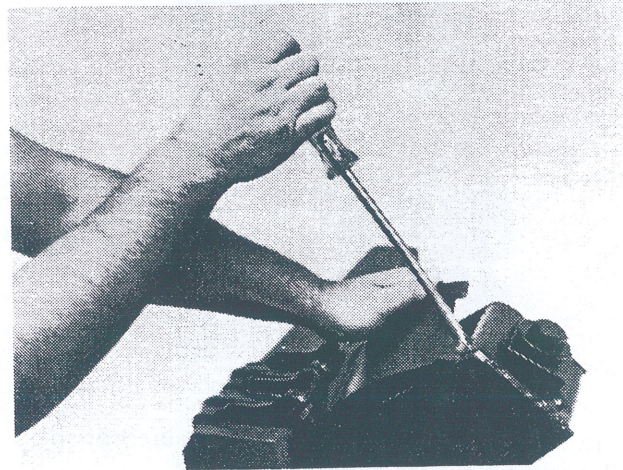

Figure 39
- (2) Use a screwdriver to remove Dirt Shield. See Figure 39.